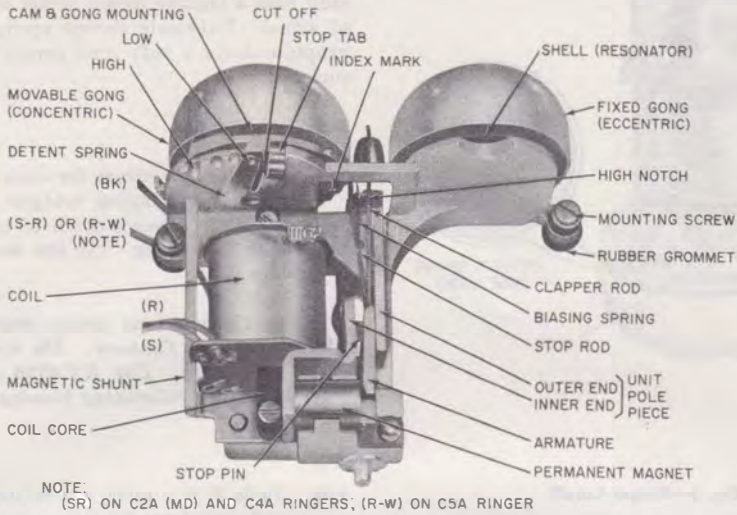

Fig. 1—C4A Ringer
- Revise Fig. 1.
1.03 Except for slight physical changes, the C4A ringer (Fig. 1) is similar to the C2A (MD) and C3A (MD) ringers which it replaces.